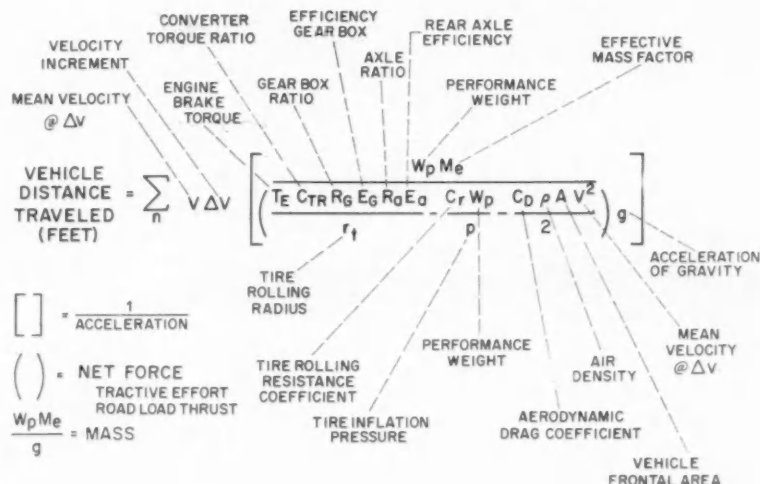

Fig. 3 — Definition of general distance equation terms.
A brief definition of terms for eq. (20) is shown in Fig. 3. The group of terms expressing net driving force is a complex function of velocity. These terms are expressed in the form of empirical curves constructed from test data or as predicted curves.